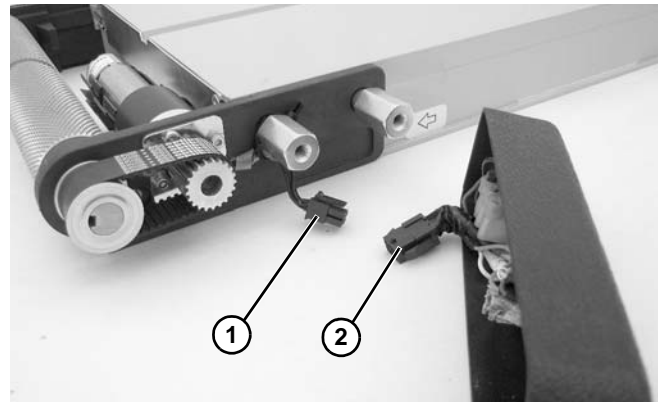

Figure 84
3. Unplug motor connector (**Figure 84, item 1**) from cover wiring connector (**Figure 84, item 2**).